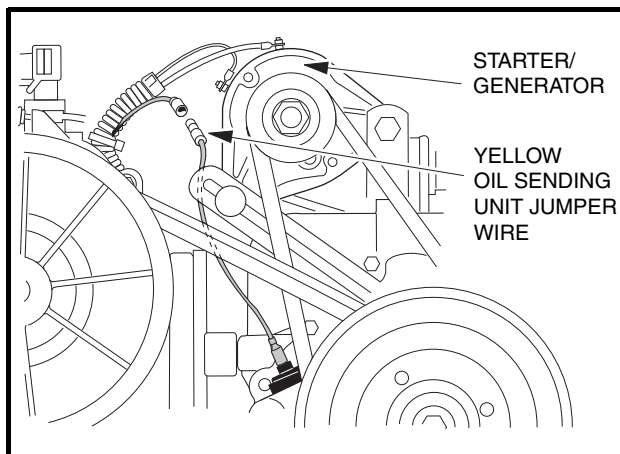

Figure 16-47 Oil Level Sensor Jumper Wire
24. Connect the oil level sensor wire (18-gauge yellow) to the jumper wire (**Figure 16-47, Page 16-20**).